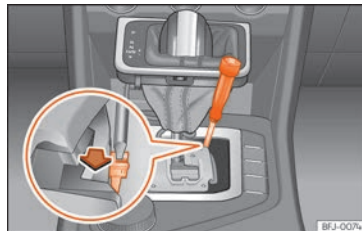

Fig. 172 Gear selector lever: manual release from the parking position.
- Using the flat part of a screwdriver, press the yellow tab sideways and keep it pressed down  **Fig. 172**.